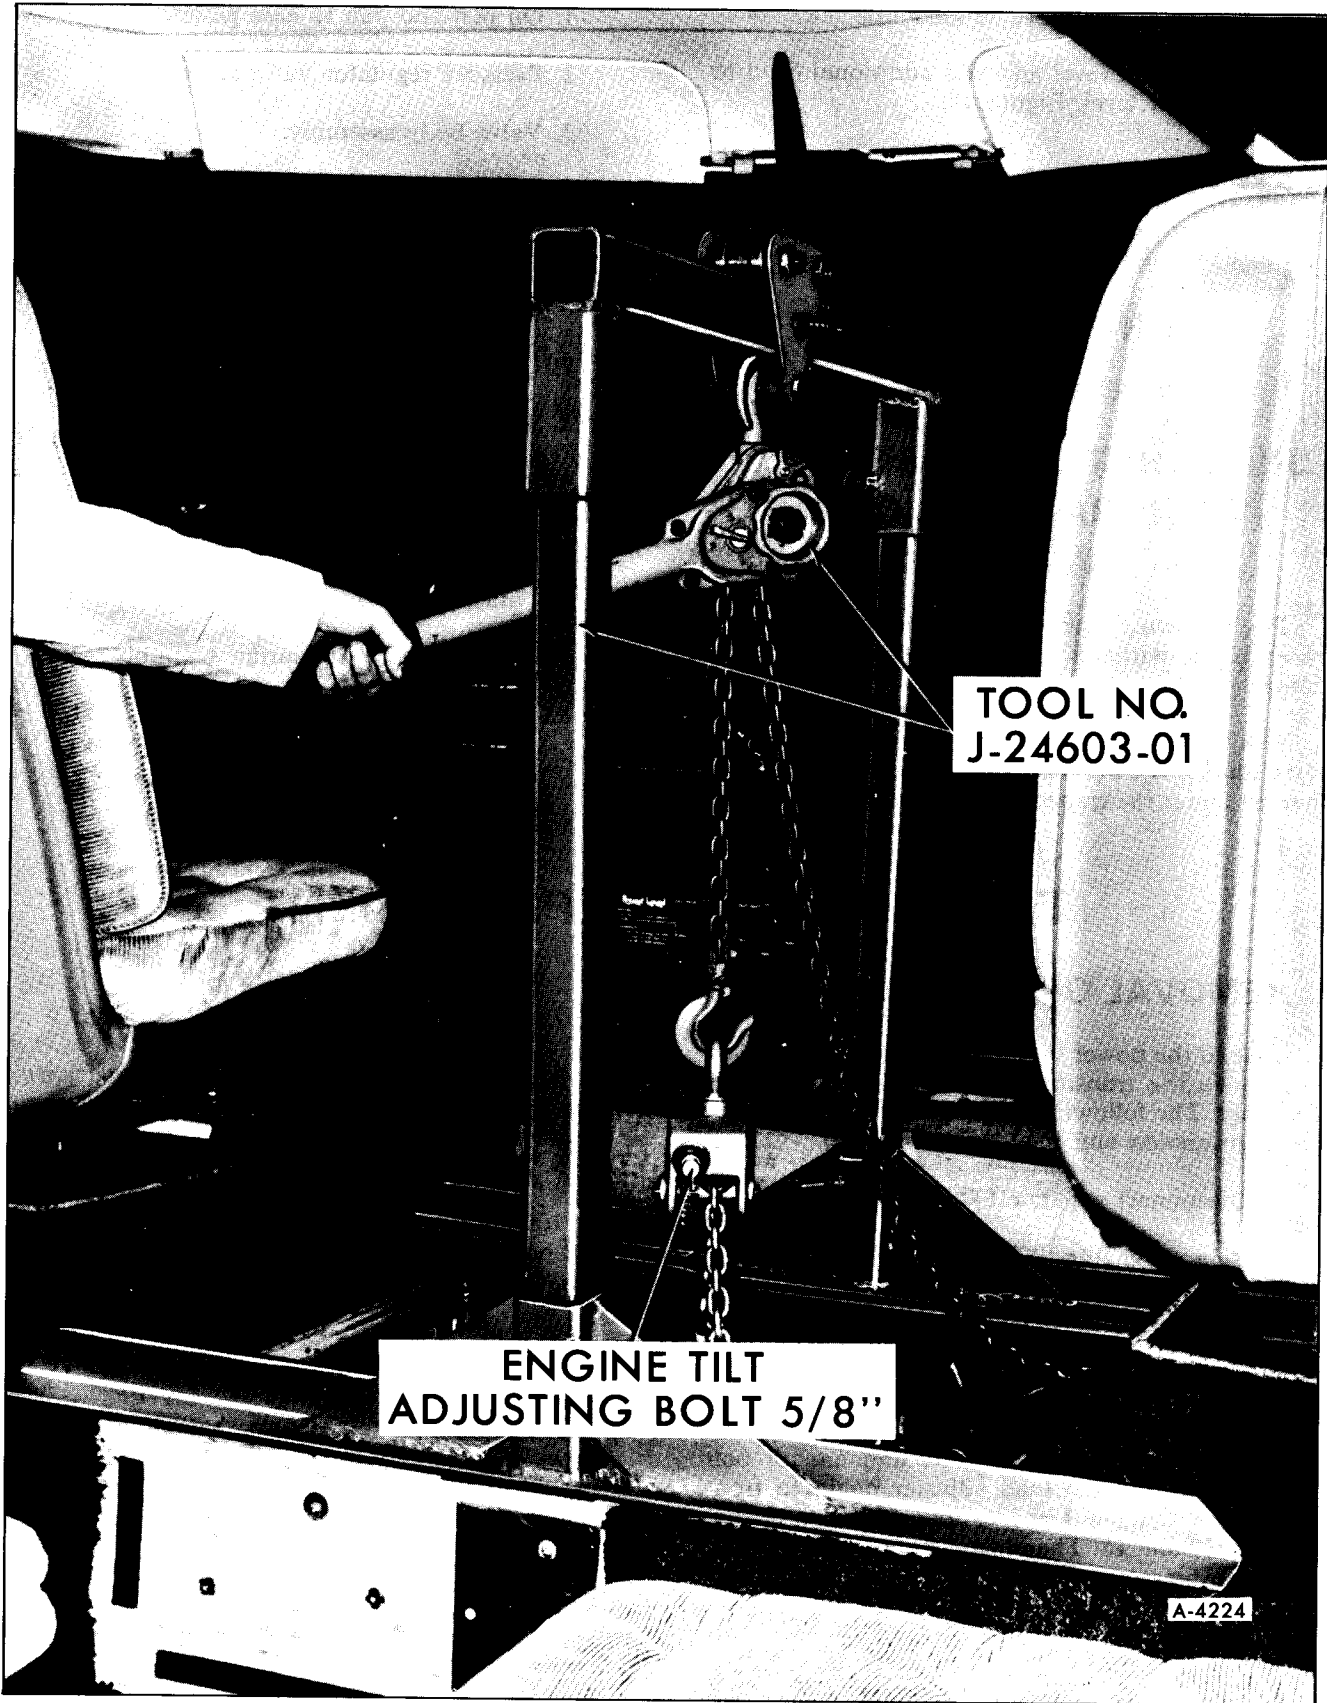
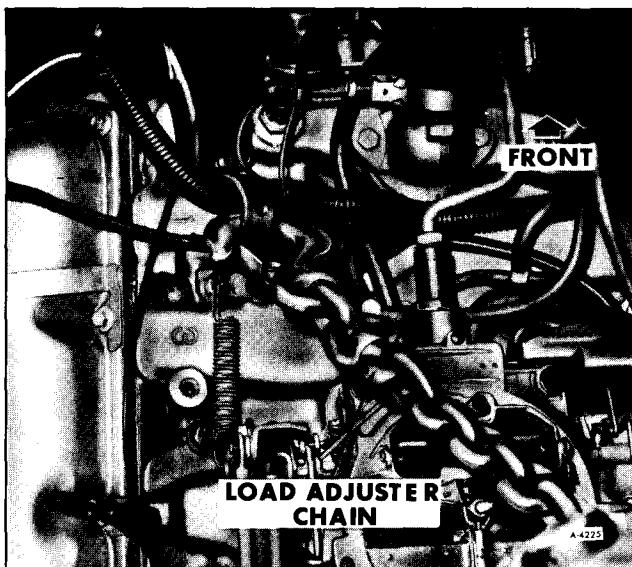

Figure 16—Attaching Engine Removal Tool
Figure 17—Front Engine Lift Location
3. Position engine holding fixture as shown in Figure 16 and adjust mechanism to remove slack from cable.
**NOTE:** To properly position engine removal tool. Remove seat belt plate and anchor bolt assembly. Attach load adjuster chain to front and rear engine. Lift locations as shown in Figures 17 and 18. Then install support braces and chain hoist as in Figure 16.